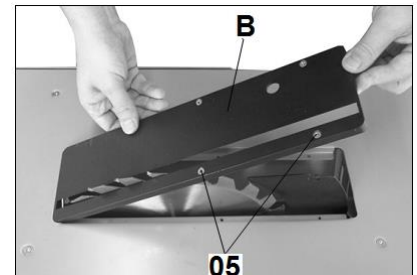

Fig 8
Position the table insert into the Table top, and lock with 4 screws(05) Fig. 8